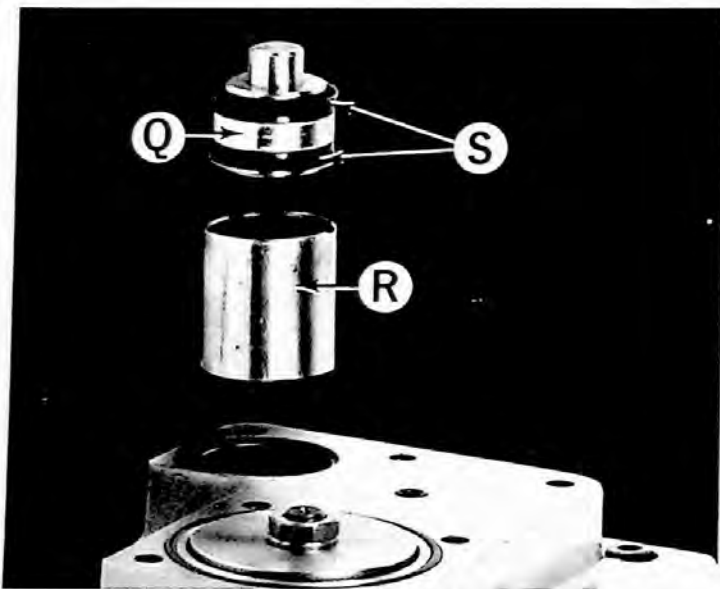

Figure 17 — Piston for Feed Rate Adjusting Screw
3. Remove piston "Q", Figure 17, cylinder liner "R" and two u-cups "S".
7. Replace two u-cups "S", Figure 17, on piston "Q". Replace cylinder liner "R" and piston "Q".